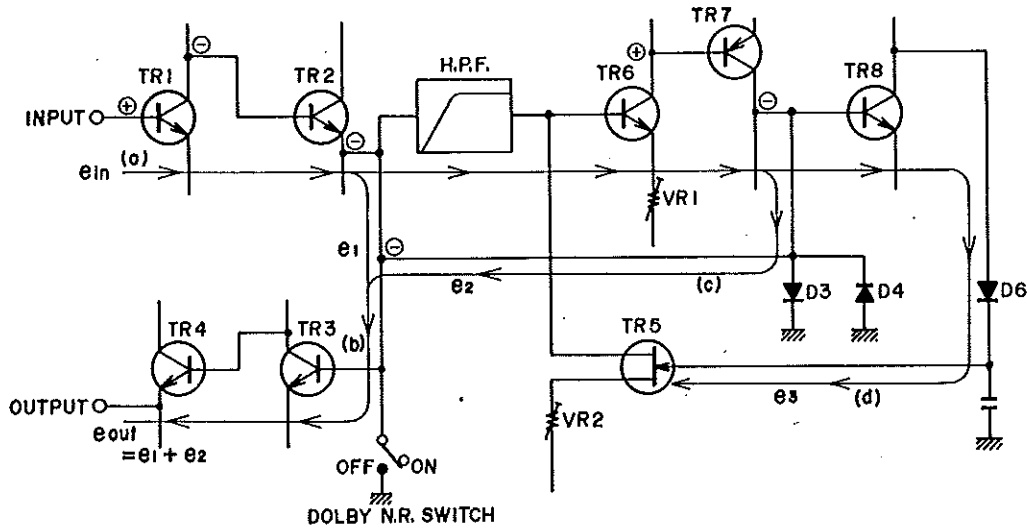

Fig. 31 Recording Dolby NR diagram
1. RECORDING DOLBY NR (Figs. 31, 32)
In figure 31, the Input Signal e in passes $TR1 \sim TR4$ and becomes the output signal. The signal from $TR2$ passes the High Pass Filter (H.P.F.) and is amplified at $TR6, TR7$. At this time, $TR6$ signal is controlled by FET (field effect transistor) $TR5$ gate D.C. bias and the signal from $TR7$ is varied by means of Diodes $D3, D4$ characteristics and is emitted as e_2 . This output signal e_2 is inphased with $TR2$ output signal and $TR4$ output becomes the dolbyized output signal e out.